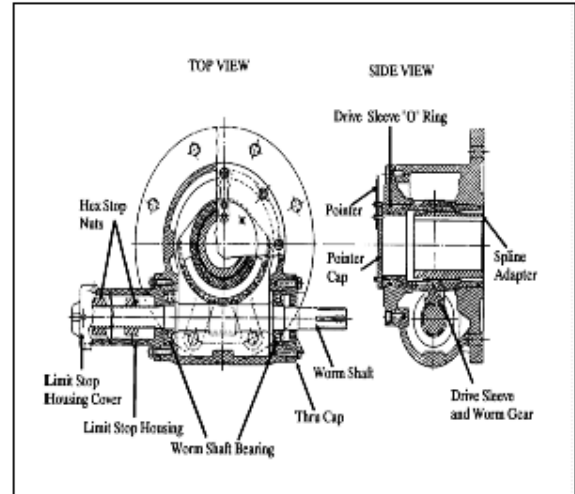

Figure 2-52 HBC-0 through 3 Operator Top and Side Views
1. Refer to Figure 2-52. HBC-0 through HBC-3 operators have hex stop nuts on a threaded part of the worm shaft for use in positive stopping.
1. Refer to Figure 2-52. The output of the actuator is fed into the HBC unit through a WORM SHAFT. The worm shaft meshes with the WORM GEAR/DRIVE SLEEVE. The drive sleeve has internal splines which